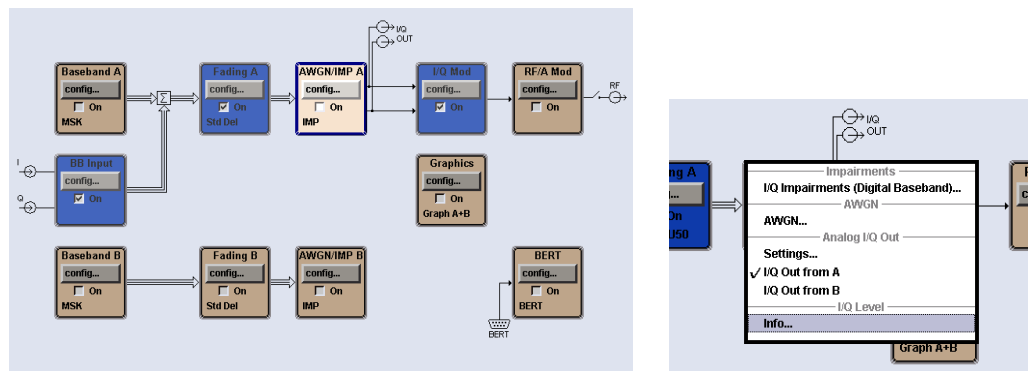

Figure 4.4_1: How to find the SMU baseband output level measurement
1. Select and enter the *AWGN/IMP A* block, select *Info*, see Fig. 4.4_1.
SMUs and AMUs with current hard- and firmware show a *Baseband Signal Level Measurement* window like Fig. 4.4_2. If your window looks different, see Fig. 4.4_3 below.